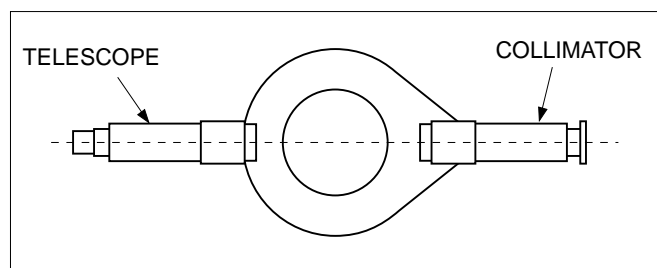

Figure 3 Align the Telescope directly opposite the Collimator
4. Align the telescope directly opposite the collimator as shown in Figure 3.